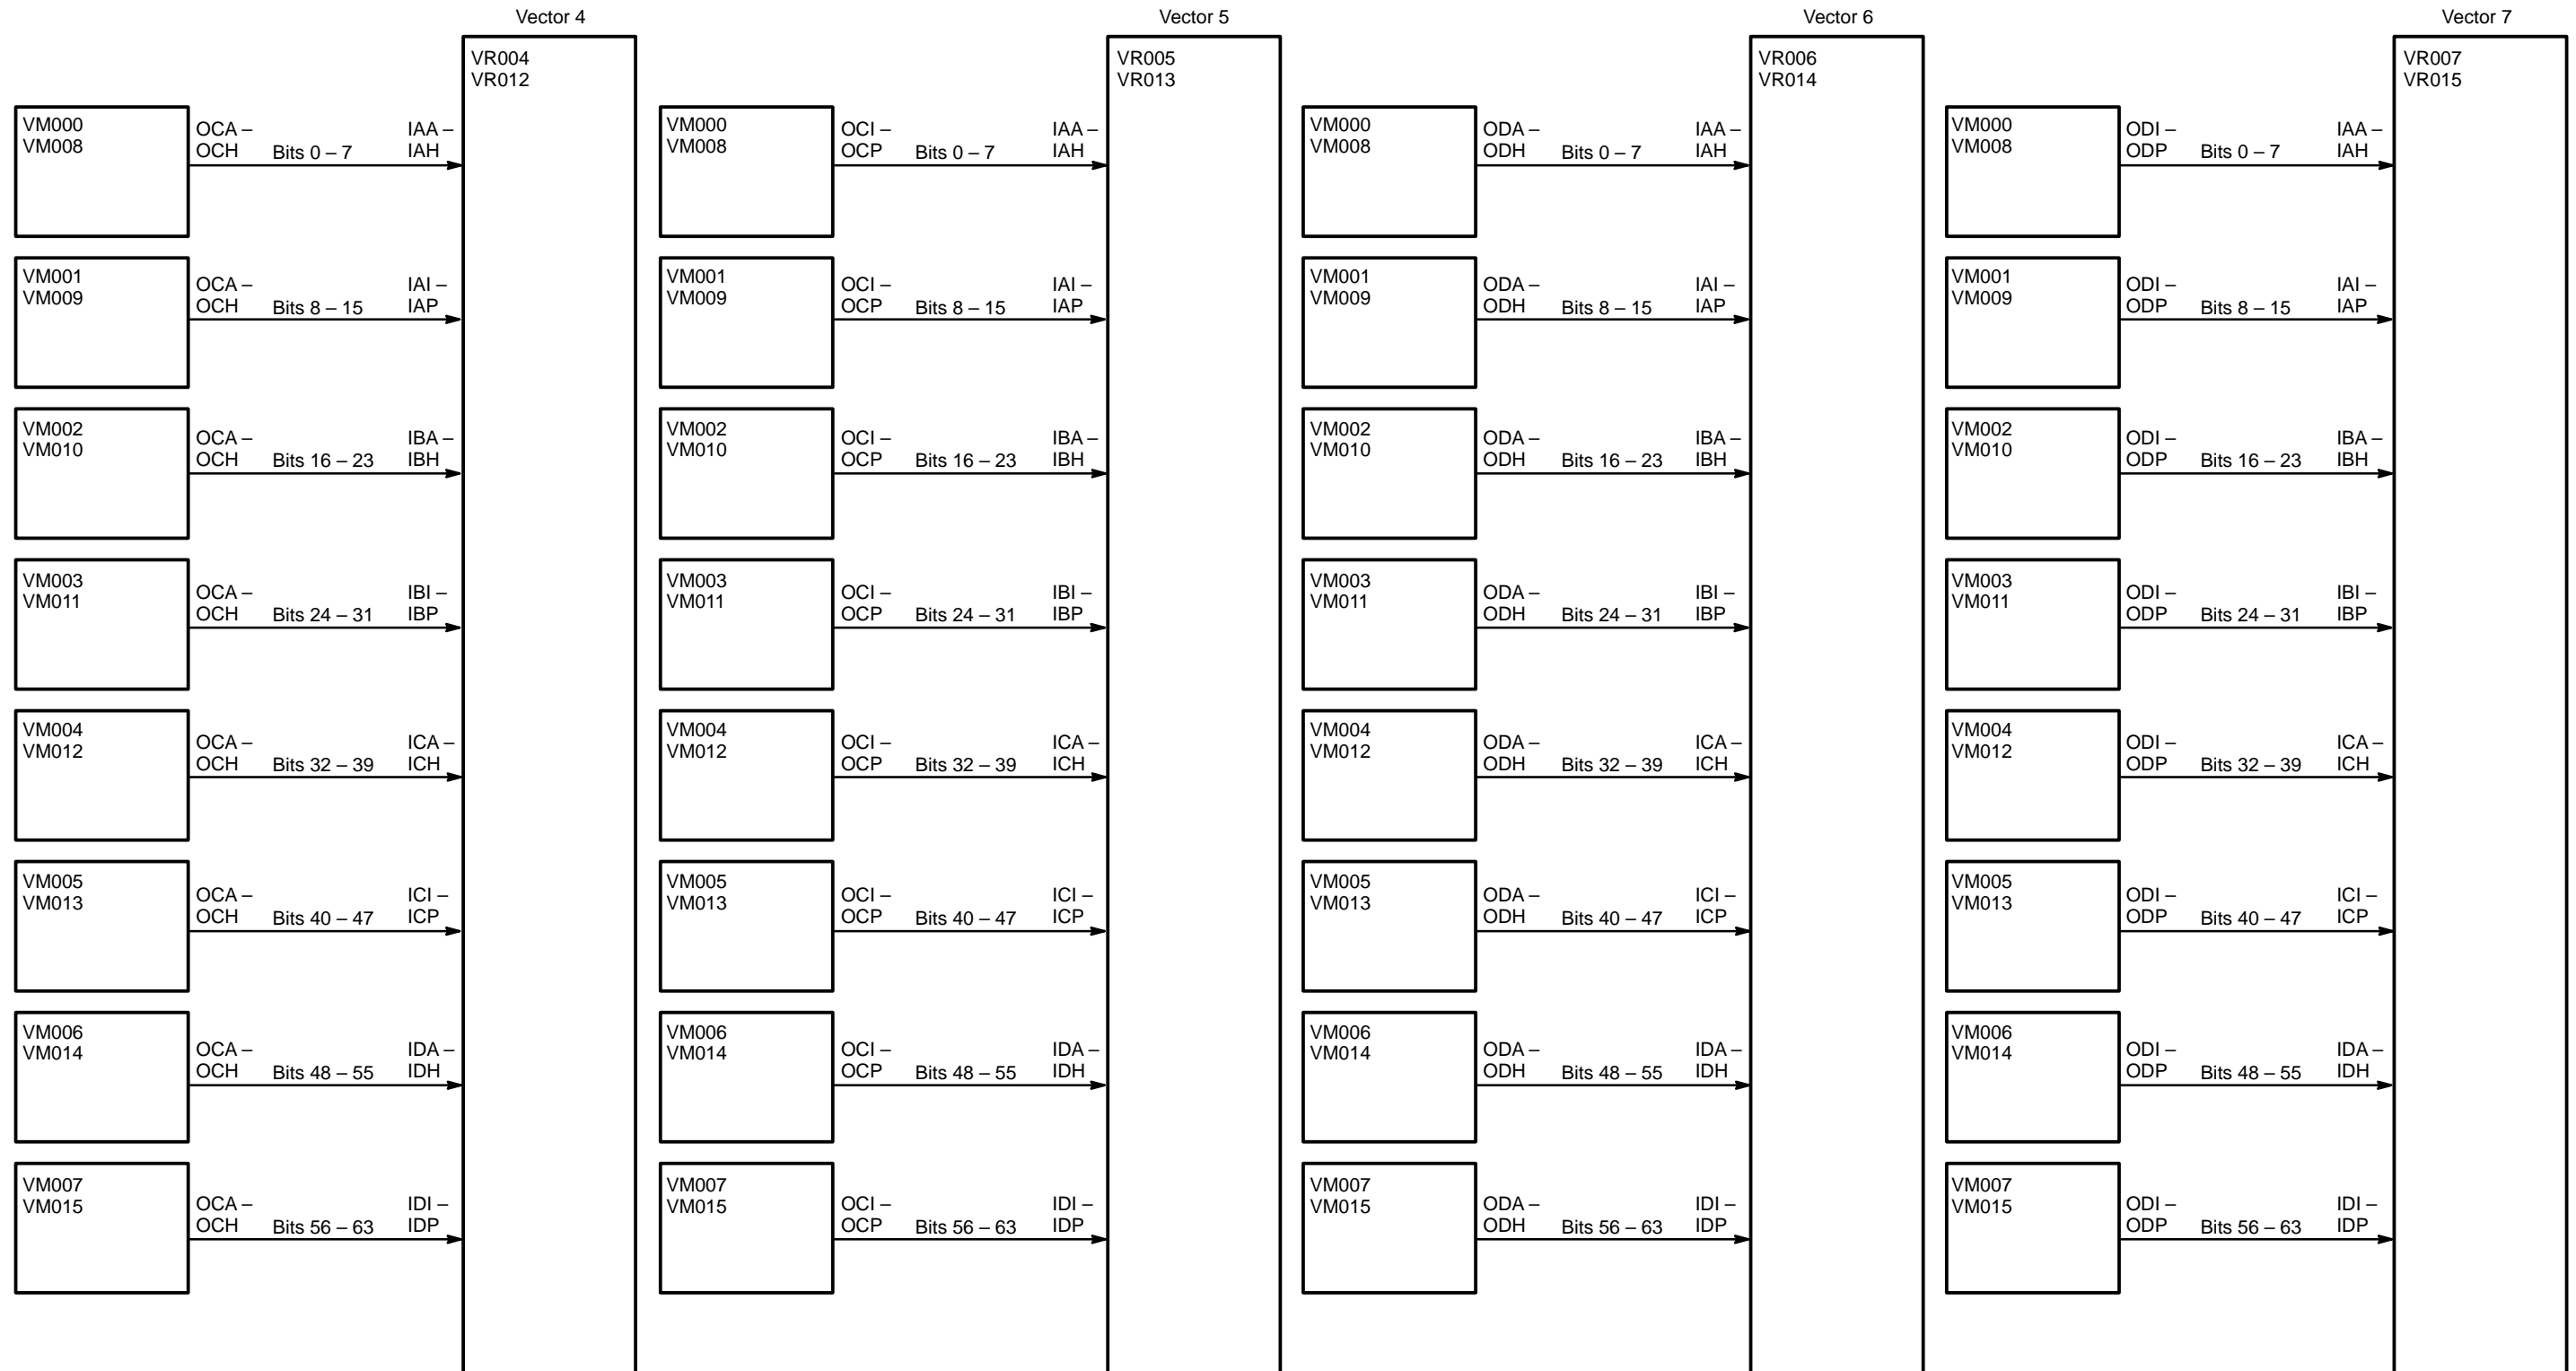

Figure 47. Vectors 4 through 7 Pipe 0/1 Write Data Path
- Figure 47 – memory data to vectors (odd elements)